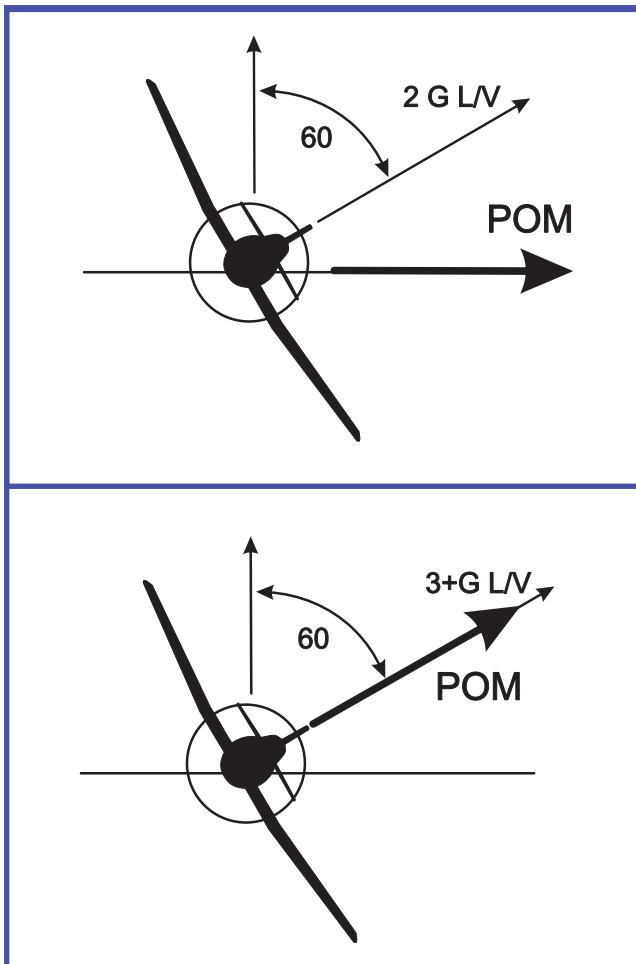

Figure 4.2 Lift Vector (L/V) and Plane of Motion
extending vertically through the top of the aircraft (90 degrees to the wings). The lift vector may approximate the POM of the aircraft with sufficiently applied load factor (G), see figure 4.2.